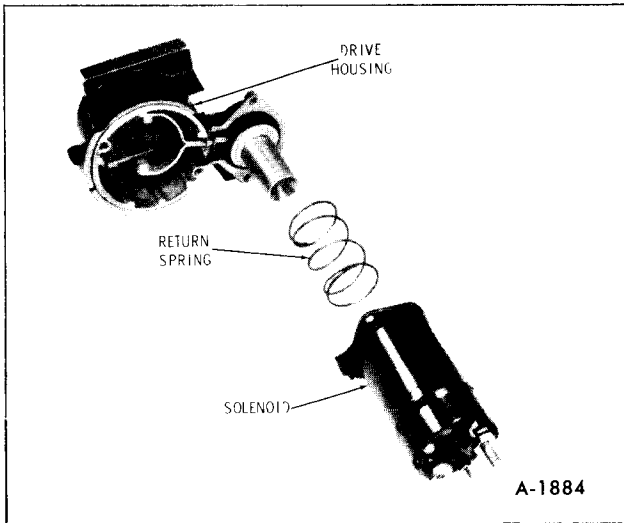

Figure 45-Solenoid Removal
- a. Remove solenoid to drive gear housing attaching screws, then remove solenoid assembly. (figure 45)
c. Install solenoid assembly to drive gear housing. (figure 45)